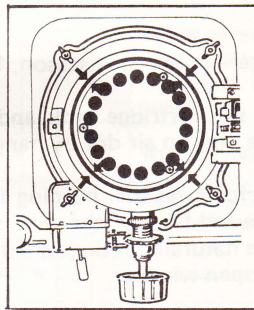

Fig. 25
- (12) Tighten each two diagonal wing nuts simultaneously so that the gap for up and down movement of the wick is even throughout. (Fig. 25) Connect the lead wire for the glow plug.
- (13) Replace the body by reversing the procedures from (5) to (1).
- (14) After adding full cartridge, wait 15 minutes for the wick to become fully saturated before ignition.